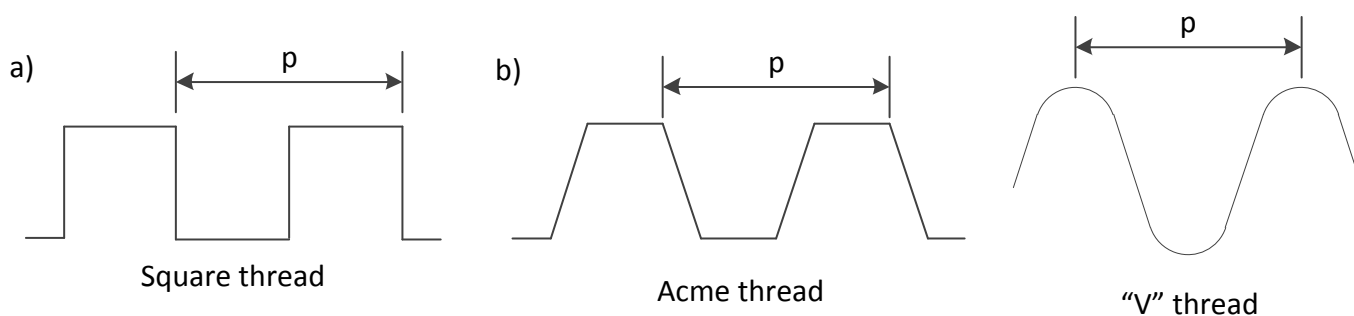

FIG 1.
Fig 1 below shows the three basic thread forms in use.
- A. The **pitch** of a thread (P in Fig. 1 (a), (b) and (c)) is the distance measured from one point on the thread to a corresponding point on the next thread parallel to the axis of the thread.
- B. The basic form for either system is shown in Fig 1(c).